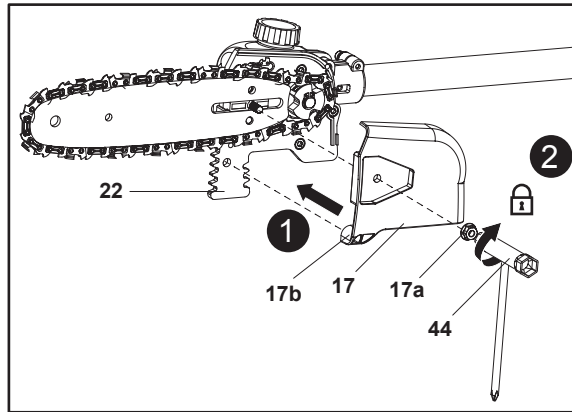

Fig. 13
- Refit the pruner cover (17) and slightly tighten the locking nut (17a) clockwise (Fig. 13). Ensure that the spigot (17b) is properly engaged in the hole of the spiked bumper (22). Do not tighten the locking nut (17a) completely as saw chain tensioning is required first.